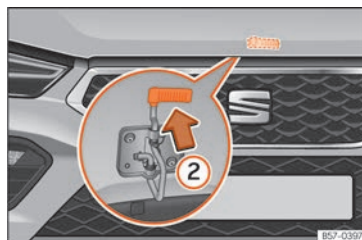

Fig. 209 Cam under the bonnet
- To lift the bonnet, press the release catch under the bonnet upwards »» Fig. 209 ②. The arrester hook under the bonnet is released.